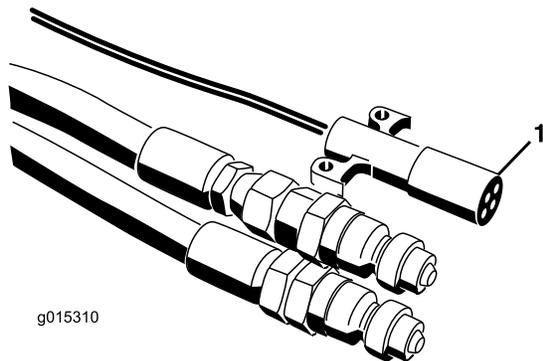
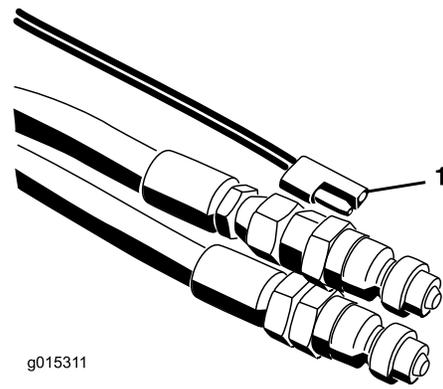

Figure 18
Figure 19
7. Connect the power harness to the tow vehicle (Figure 18 & Figure 19). On SH models place the on/off pendant within reach of the driver's seat. Ensure that the switch is off.